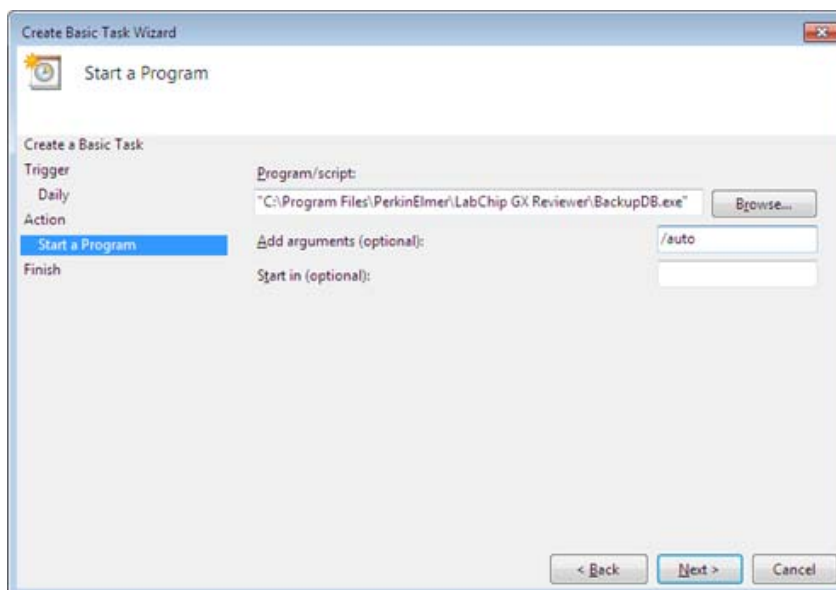

Figure 67. Add Arguments
- 9 Type **/auto** into the **Add arguments** text box and click the **Next** button. See Figure 67.